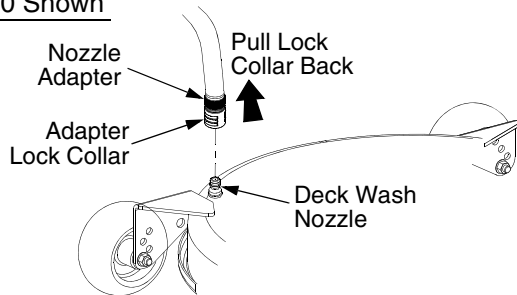

Figure 37
- Pull back the lock collar of the nozzle adapter and push the adapter onto one of the deck wash nozzles at either end of the mower deck. Release the lock collar to lock the adapter on the nozzle. See Figure 37.